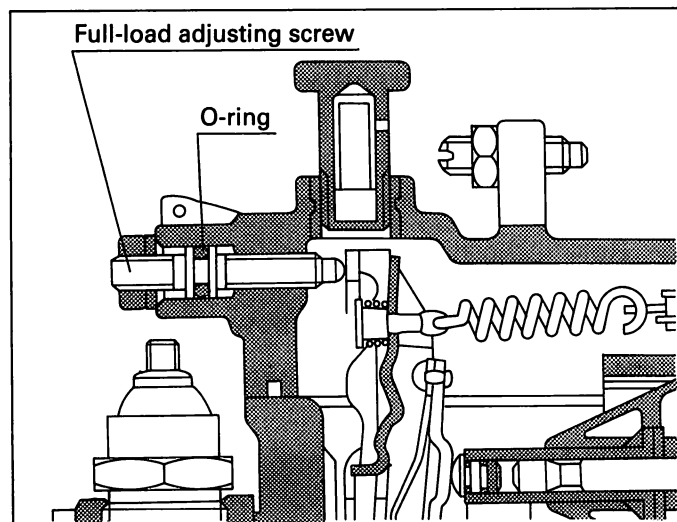

Fig. 107 Check the adjusting screw O-ring
3. Check that the full-load adjusting screw O-ring is not projecting from the cover mounting hole. If projecting from the hole, use a shorter adjusting screw. Conversely, if the full-load adjusting screw is too short, it will not be possible to adjust the full-load injection quantity and the nut will not sufficiently engage the screw. In this case, use a longer adjusting screw. (Fig. 107)
If not correctly positioned, adjust it by replacing the full-load adjusting screw. (Refer to Fig. 107)